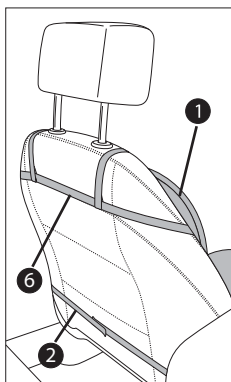

Fig. 1
- ◆ Secure the seat cushion **1** carefully using the securing straps **2** (see Fig. 1).